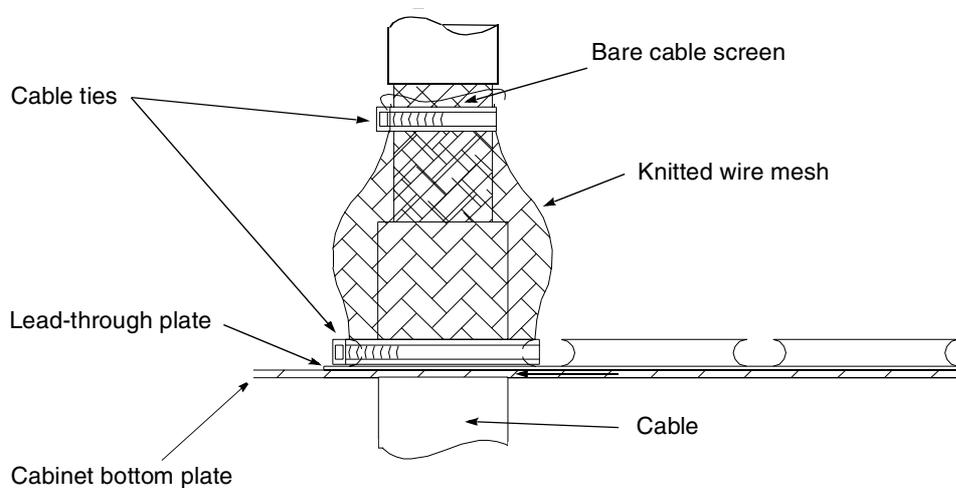

Figure 3 Example: Motor cable entry earthed by means of knitted wire mesh.
**EMC Requirements** EMC compliance of ACx 604 requires 360° high frequency earthing of the screens of motor and control cables at their entries. For the motor cables, the earthing can be implemented by a knitted wire mesh screening as in Figure 3 below.